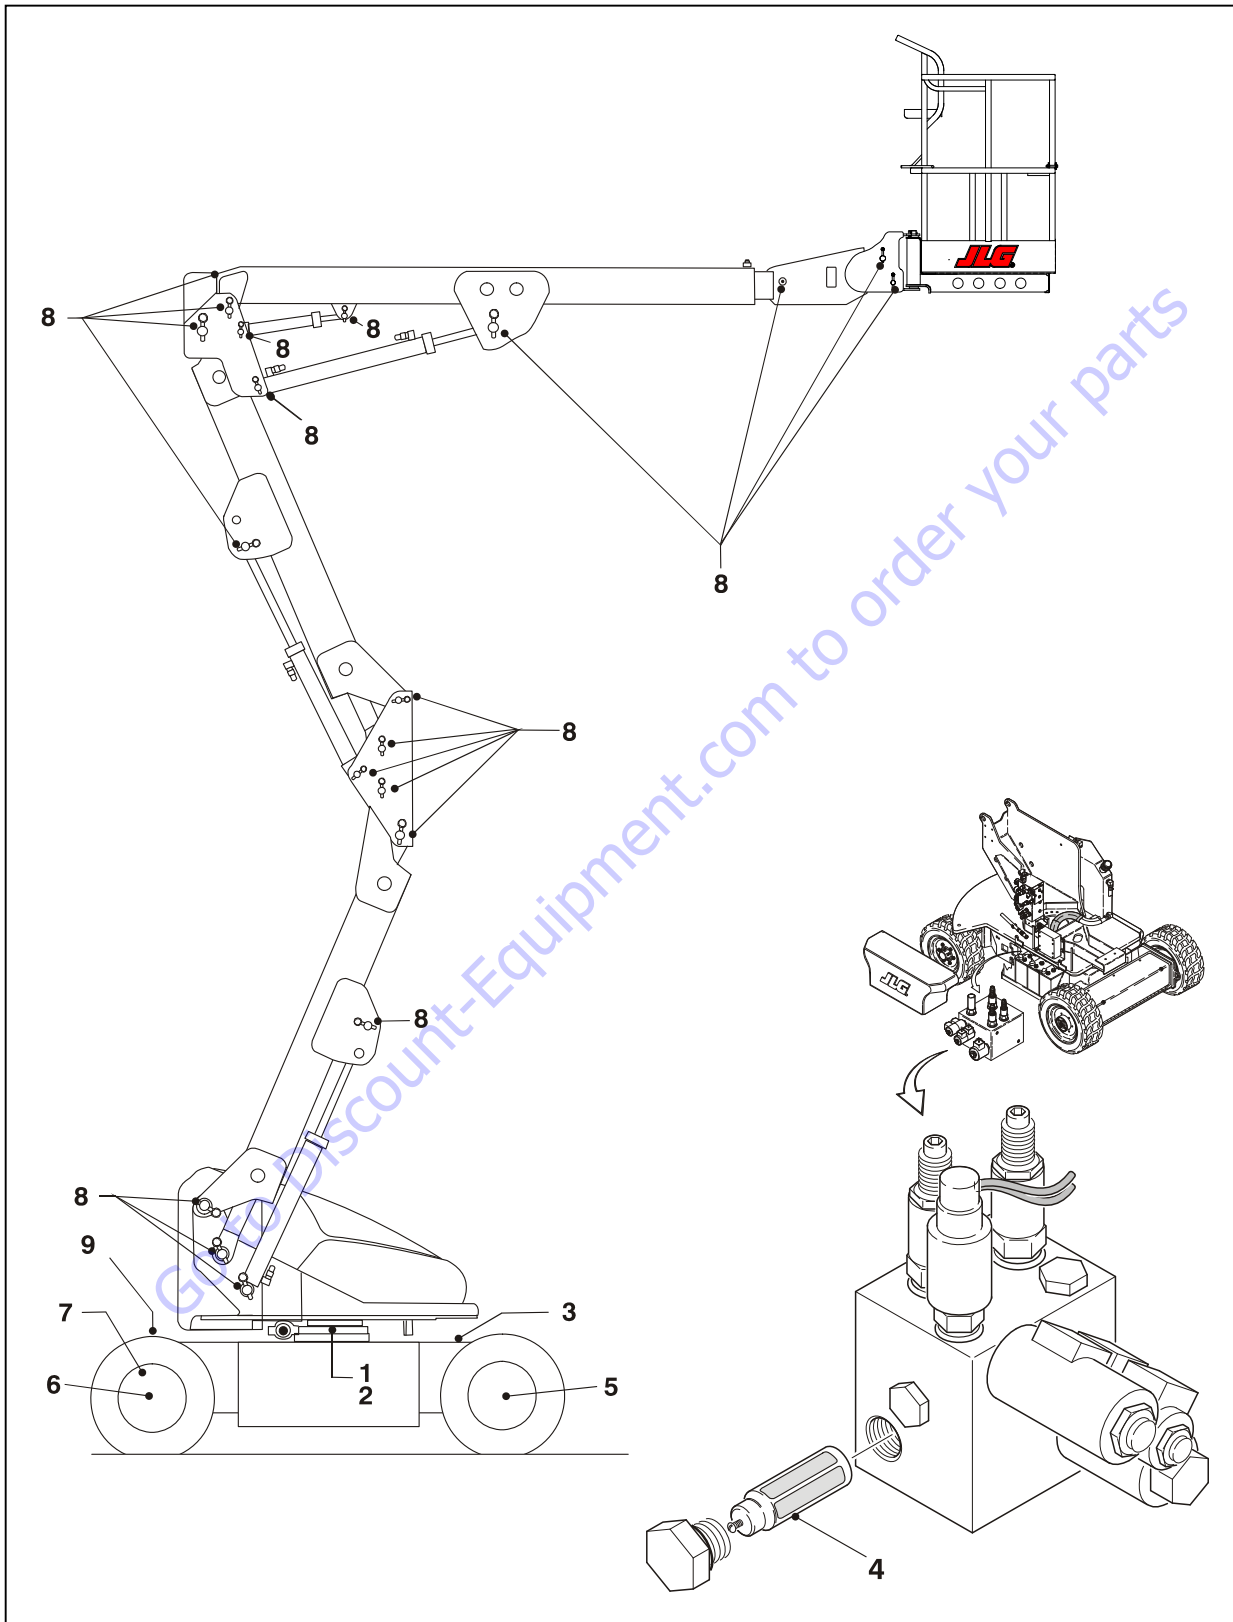

Figure 1-2. Operator Maintenance & Lubrication Diagram
**NOTE:** The following numbers correspond to those in Figure 1-2., Operator Maintenance & Lubrication Diagram.